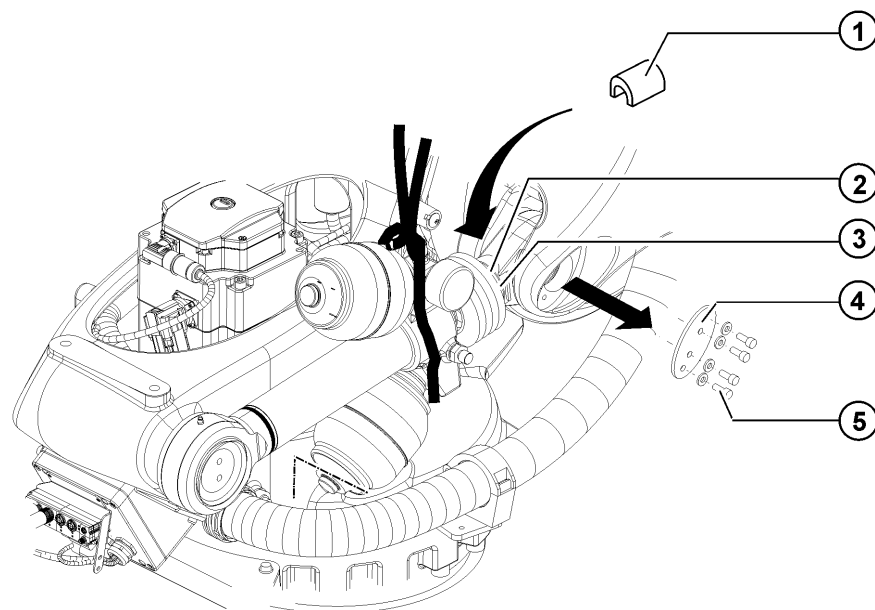

Fig. 11-19: Removing the counterbalancing system: spacer
1. Slacken the worm drive clip and push the bellows backwards (>>> Fig. 11-19).